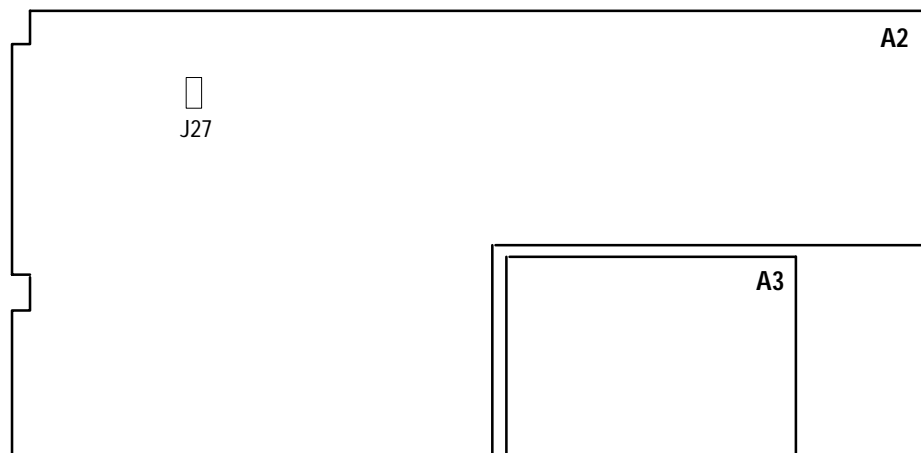

Figure 5–1: Location of the Calibration Enable jumper
2. Enable the Calibration mode by positioning the jumper on A2J27 onto both pins. See Figure 5–1.
2. Check the power supply voltages listed in Table 5–3. See Figure 5–1 for the test point locations.
2. Connect a X1 probe from the frequency counter to A2U93, pin 1. See Figure 5–1 on page 5–4.